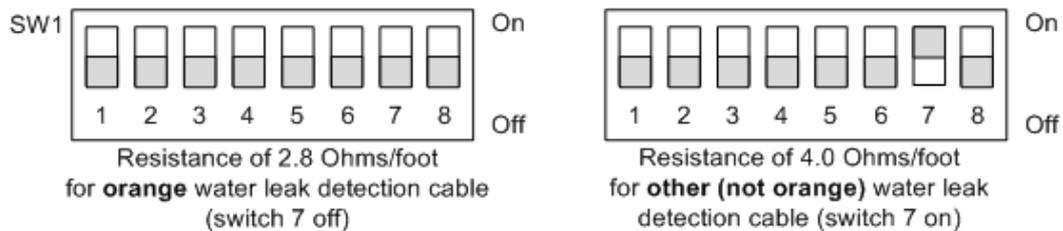

Figure 20 SW1 DIP Switch settings for Ohms/Foot
1. Set the SW1 DIP switches for the correct cable resistance per foot, as shown in Figure 20.